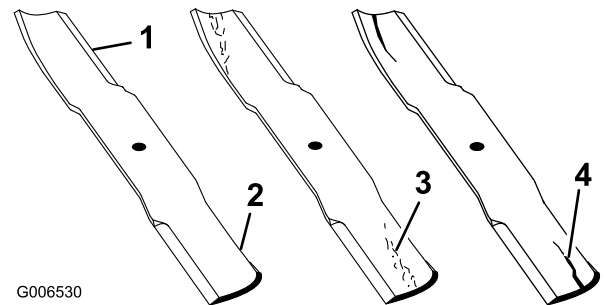

Figure 85
1. Inspect the cutting edges (Figure 85). If the edges are not sharp or have nicks, remove and sharpen the blades. Refer to Sharpening the Blades.
2. Inspect the blades, especially the curved area (Figure 85). If you notice any damage, wear, or a slot forming in this area (Figure 85), immediately install a new blade.